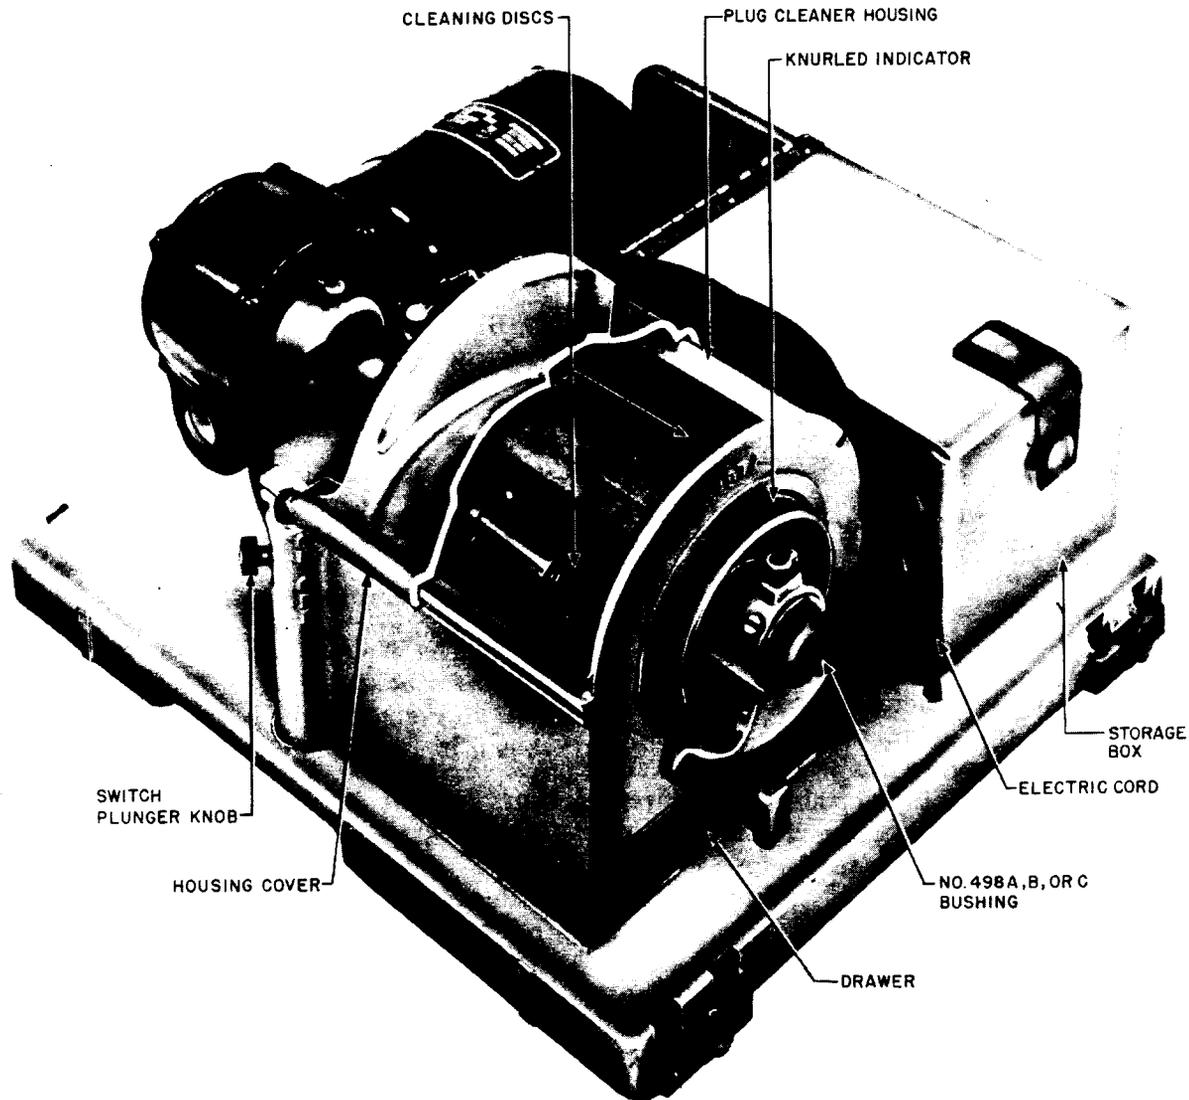

Fig. 1 — Portable Plug Cleaner (Outer Cover Removed) — No. 497A
**3.01** The No. 497A plug cleaner is arranged for ac and the No. 497B for dc operation. The plug cleaner, with outer cover removed, is shown in Fig. 1.